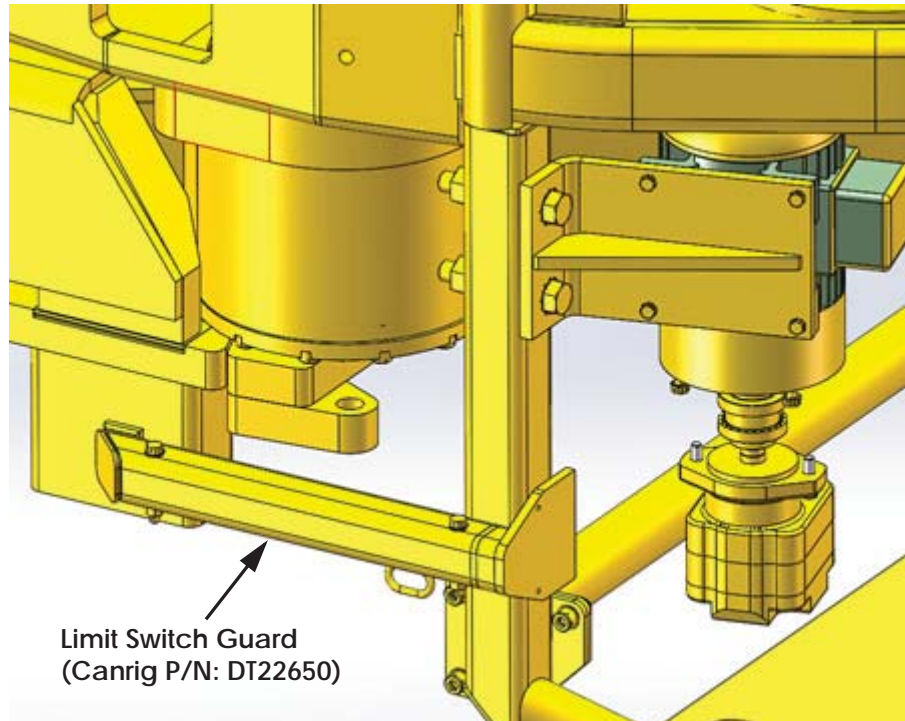

Figure 4: Modified limit switch guard (Canrig P/N: DT22650)
- 2c. Limit switch guard was correctly replaced with modified design Canrig P/N: DT22650 (refer to Figure 4 above).